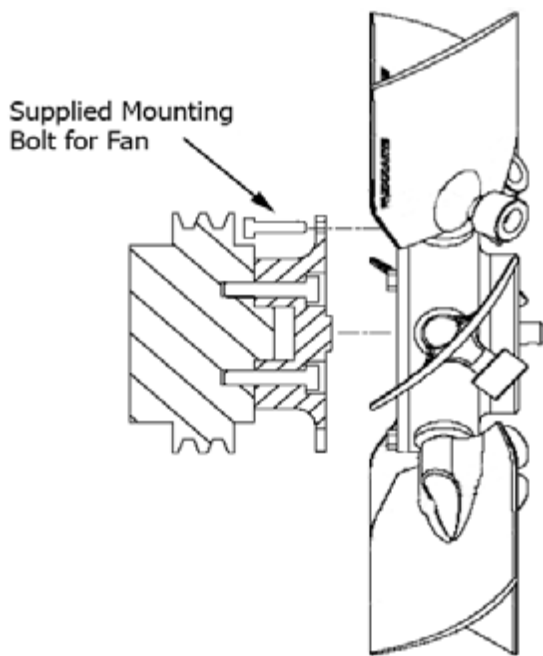

Figure 5
4. Remove the shipping plug from the rear of the fan. Place the Flexxaire fan onto the mounting adapter (Refer to Figure 5) and torque the bolts as follows: